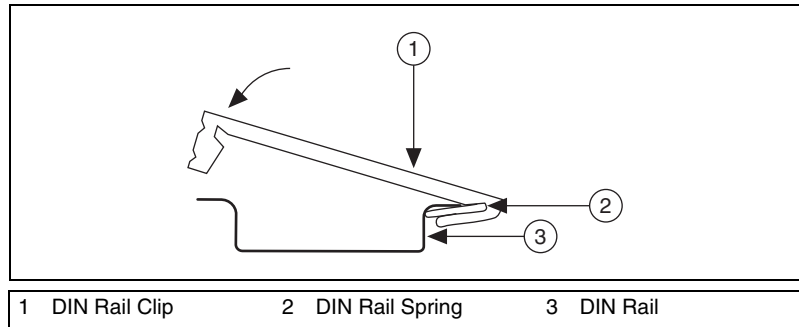

Figure 8. One Edge of the DIN Rail Inserted in a Clip
2. Insert one edge of the DIN rail into the deeper opening of the DIN rail clip, as shown in Figure 8.